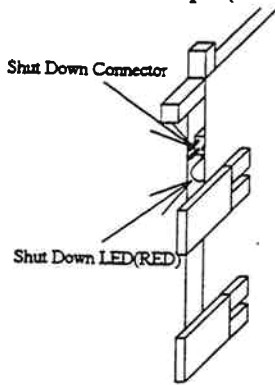

Fig. 3.3.16.3.2-1 Shut Down LED
- a. Confirm that the Shut Down LED lights.(Fig. 3.3.16.3.2-1) If the LED does not light, see Connection of Shut Down Jumper(INST03-2600).
- a. Set the jumper plugs(JP1-JP4). Refer to Fig. 3.3.16.3.2-2.